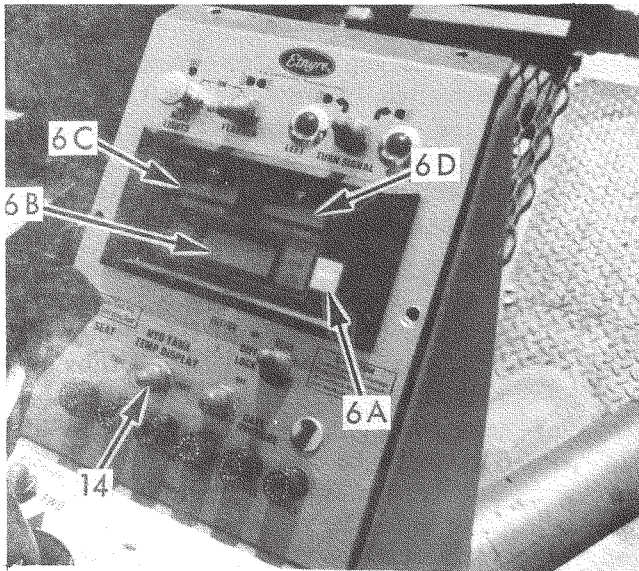

Figure 7. Digital Instrument Panel
6. Digital Instrument Panel. (Fig. 7)
Note: There are two tanks selected by the selector switch (Ref. 14, Figure 7). **Only the tank selected will be connected to the alarm.** It is therefore important to occasionally switch the selected tank to monitor its condition. The selector switch should normally be kept on the left (hydrostatic) tank, even though while chipping it normally runs cooler than the right (implement) tank. The reason for this is the relative costs of the components is much greater on the hydrostatic system. When travelling the hydrostatic oil temperature runs hotter and **the switch should always be on the left during travel.**